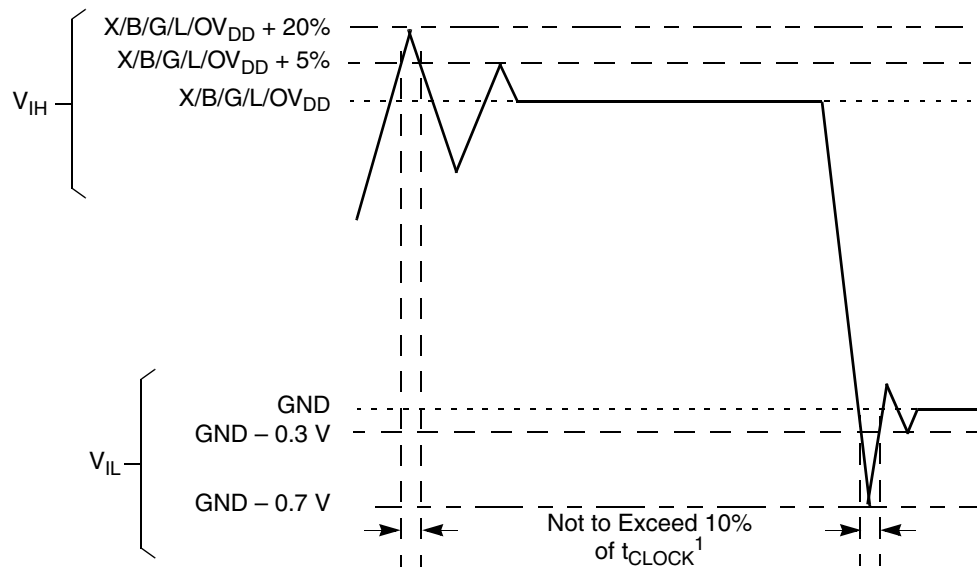

Figure 2. Overshoot/Undershoot voltage for $BV_{IN}/MV_{IN}/LV_{IN}/OV_{IN}/XV_{IN}$
6. (X,B,G,L,O)VIN and MV_{REF} may overshoot/undershoot to a voltage and for a maximum duration as shown in Figure 2.
2. (L,X,B,O,G) V_{IN} may overshoot (for V_{IH}) or undershoot (for V_{IL}) to the voltages and maximum duration shown in Figure 2.